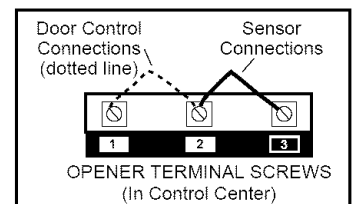

Figure 4
- Connect the door control wire to the opener terminal screws: white to 2 and white/red to 1. (See Figure 4.)